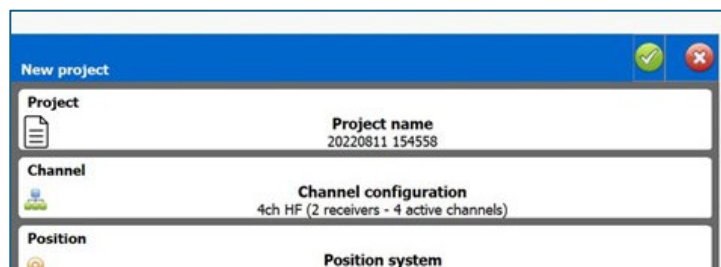

Figure 6 Connecting to Raptor array in Talon-2 and project options
Connect button will turn **Connected(x)** when a complete array has been detected and verified. Figure 6.
6. Click the New button to create a new project or open an existing project. The project settings are shown, see Figure 6, below, and if you wish to change anything tap the corresponding setting. Confirm settings by tapping the symbol.